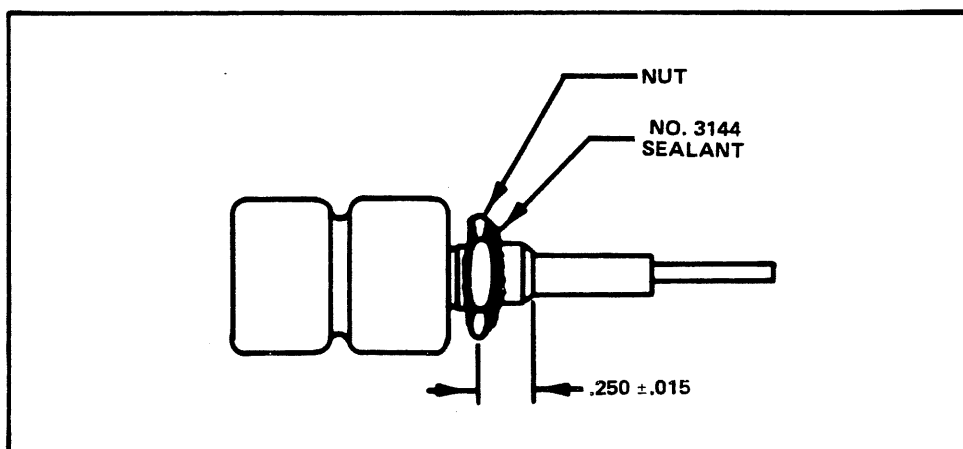

Figure. 15. Application of sealant to FINE control nut.
- (2) Install nut on bushing as shown in Figure 15.
- (3) Form a bead of No. 3144 sealant at the interface of the nut and bushing as shown in Figure 15.
- (4) Use washer and nut supplied and install the control in the Front Panel.